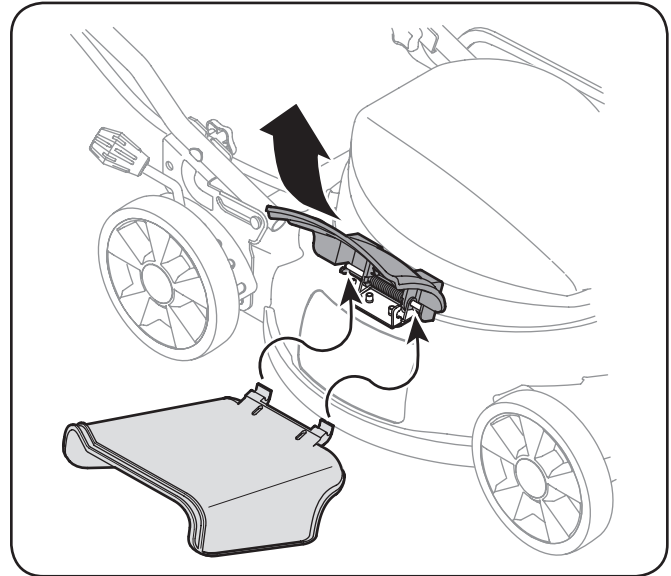

Figure 3-7
2. Slide chute hooks under hinge pin on mulch baffle assembly. See Fig. 3-7.